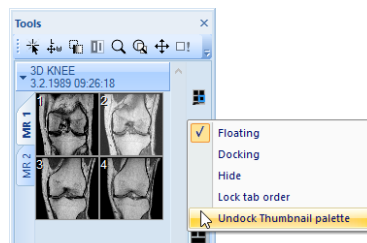

Figure 28 – Undocking thumbnail bar from Tools panel via context menu
2. Select the **Undock thumbnail** item in the context menu (see Figure 28).